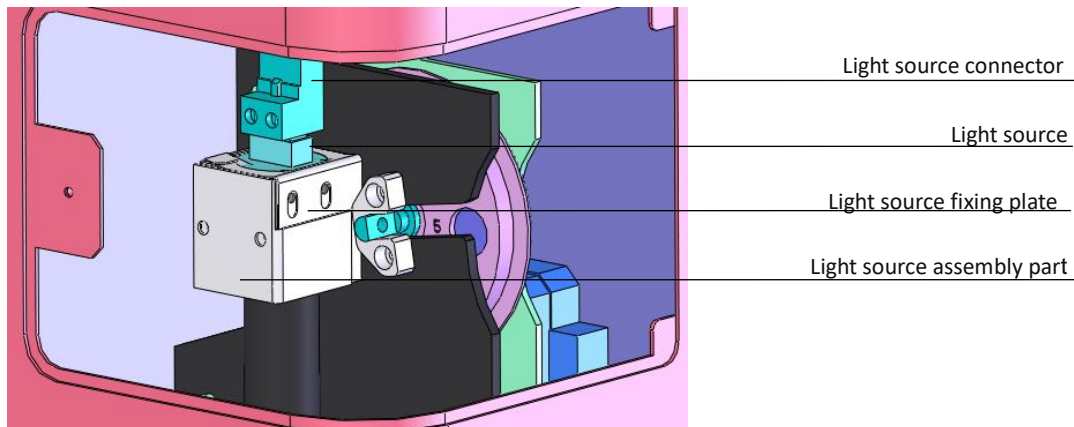

Fig 54
- a. Open the back door of the instrument, locate the light source (see Fig 54), loosen the screws on light source connector using a small screw driver, remove this connector by gently pulling it upwards.
- c. Replace the new light source by reversing the above steps, pay attention to the position of the light on the light source part, then connect the fixing plate. See Fig54